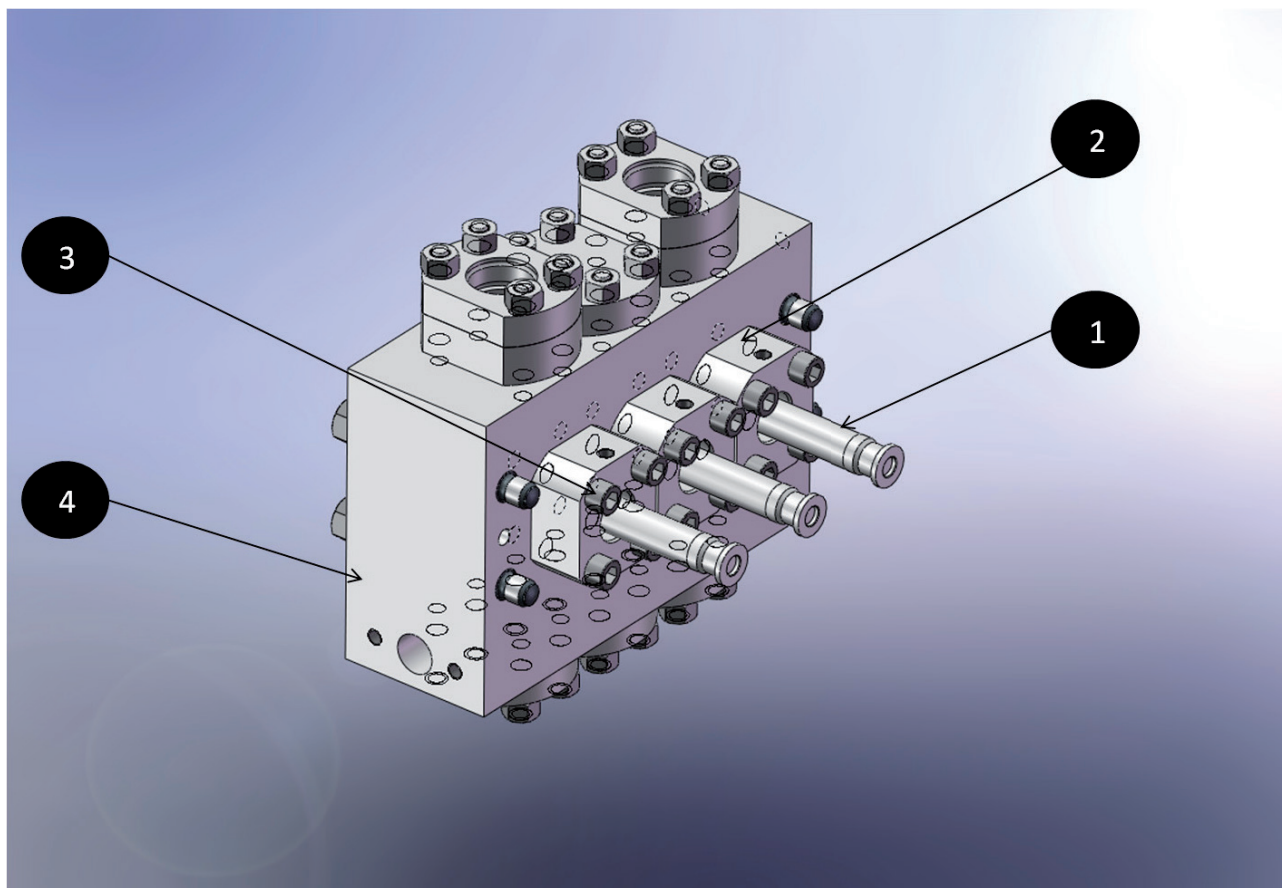

FIG. 7-10
- Referring to Figure 7-10, insert the piston (1) into the packing container flange (2) with the packing already fitted and secure it with the centring grub screws and nuts (3) to the head (4).